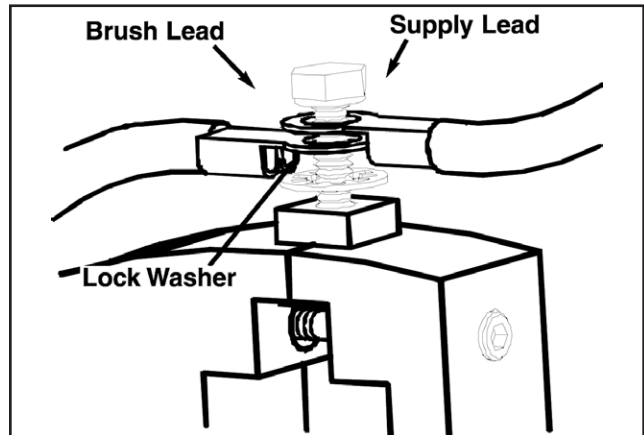

Figure 13-1
3. Disconnect the Feeder Cable Connections from the Slip Ring Brush Terminals. Mark/Note the existing cable connections. See **Figure 13-1**.